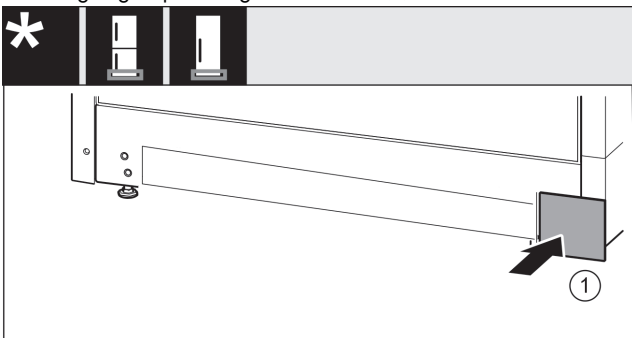

Fig. 37
- Put the cover back on the other side. *Fig. 37 (1)*